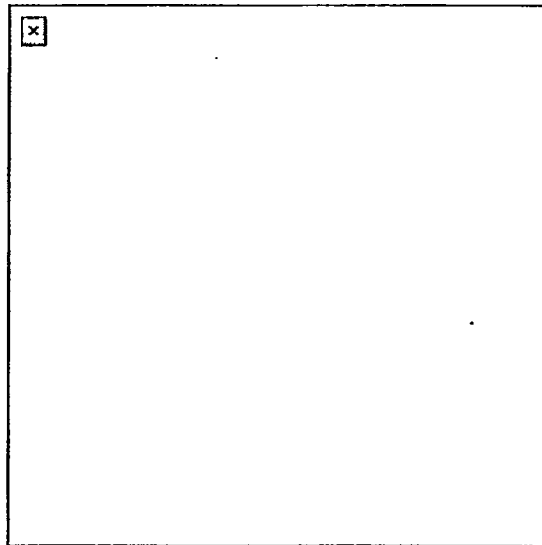

Figure 4. Loophole position.
- (1) Break or blow several small holes in the wall (Figure 4) to allow the firer to observe and engage targets in his sector. Making several holes allows the firer to move from one to another to deceive the enemy about his location.